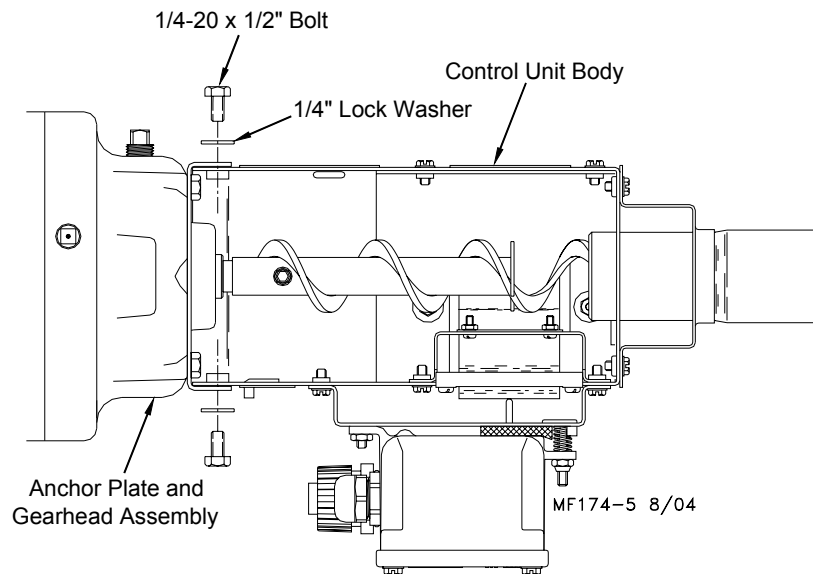

Figure 42. Attaching the Anchor Plate and Gearhead Assembly to the Control Unit Body
7. Attach the Anchor Plate and Gearhead Assembly to the Control Unit Body using the included 1/4" Lock Washers and 1/4-20 x 1/2" Bolts. See **Figure 42**.